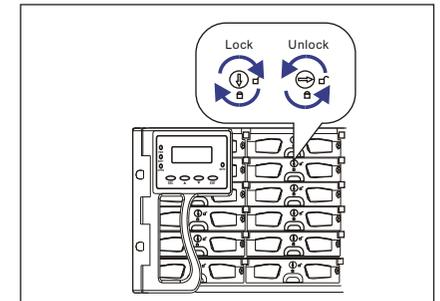

Figure 2: Drive Tray Key-Lock Rotation
- Step 1.** Use a flathead screwdriver to turn the drive tray key-lock to the unlocked position, i.e., the groove on its face is in a horizontal orientation. (See **Figure 2**)